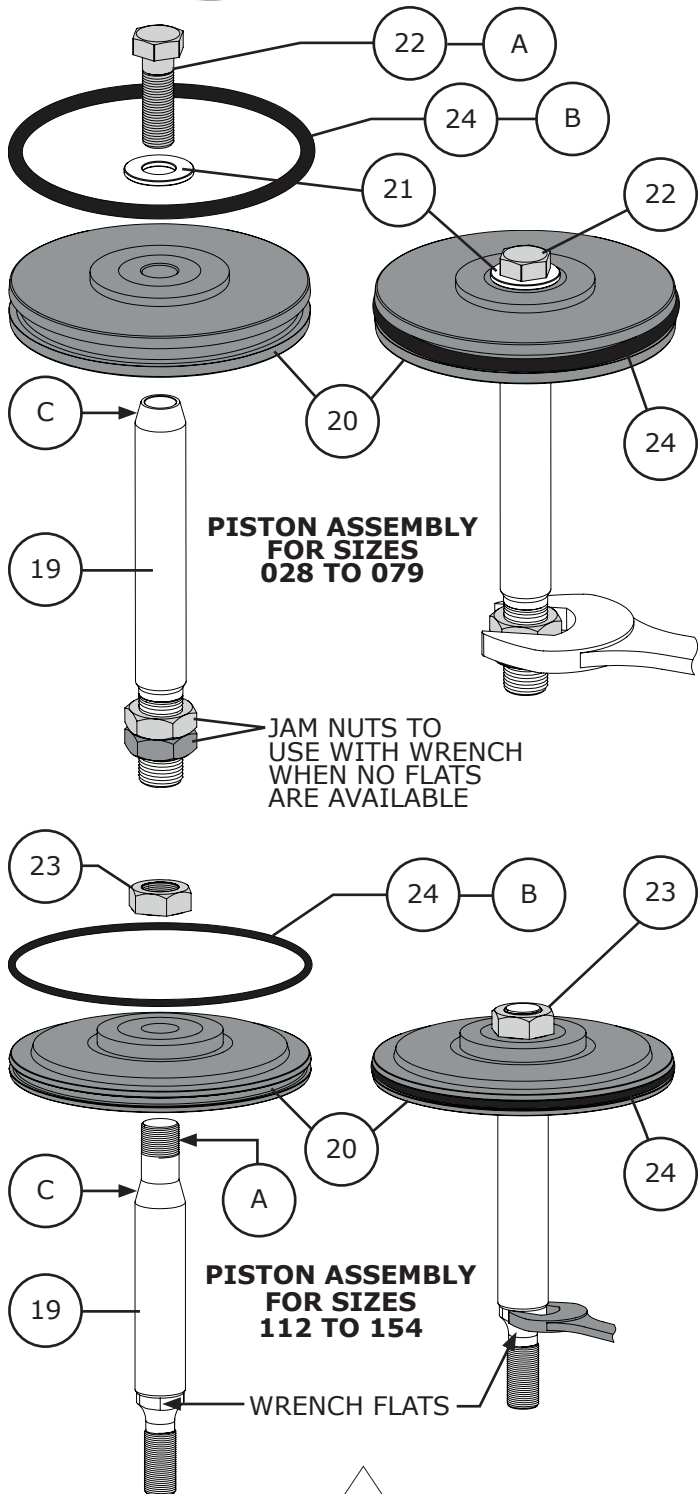

Figure 23 Piston Assembly
- 2 Apply Permatex® Nickel Anti-Seize (Key A) to the threads of the piston rod (Key 19) or threads of the cap screw (Key 22) if used. Slide the piston rod through the bore of the piston (Key 20). Install the washer (Key 21) onto the piston, sizes 113 and 154 do not use a washer. Secure the assembly together with the hex nut (Key 23) or cap screw (Key 22). Refer to Figure 23.
- 3 Place a wrench onto the flats of the piston rod (Key 19) or use two nuts as jam nuts and tighten the hex nut (Key 23) or cap screw (Key 22) to the torque specification shown in Table 3. Refer to Figure 23.